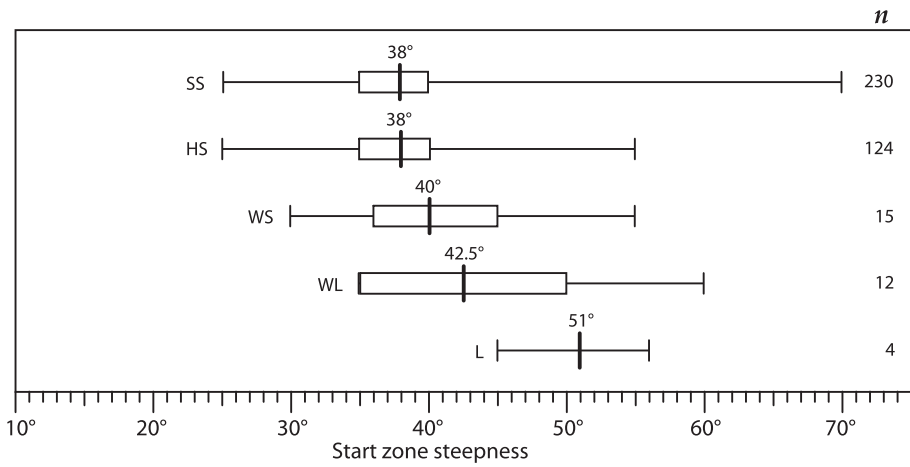

Figure 2: Start zone steepness by avalanche type (SS – soft slab; HS – hard slab; WS – wet slab; WL – wet loose; L – dry loose).
Figure 2: Schematic illustration of side-by-side extended column tests. Fractures are initiated under thin and thick parts of the slab by placing and tapping on a shovel on the thin side in one test and on the thick side in the second test.
Hard slabs and soft slabs were by far the most common avalanche type in reported accidents (figure 2). While there was no statistical difference between start zone steepness for hard slabs and soft slabs (Pt-test = 0.103), significantly more hard slabs than soft slabs released in start zones 30°–45° (PBartlett = 0.0004). In other words, hard slabs in this sample released over a narrower range of slope angles than soft slabs.
Other weak layer types showed a distinct tendency to release on steeper slopes. Stellar dendrites (SD), decomposing forms (DF), and wet grains (WG) generally released on slopes steeper than 38°, with wet grains showing a broader range of start zone angles (IQR = 11.5°) that is consistent with wet avalanche types in figure 2. It is worth noting that stellar dendrites were the only precipitation particle reported as a weak layer; graupel and other precipitation types were notably absent from avalanche reports where start zone steepness was known.